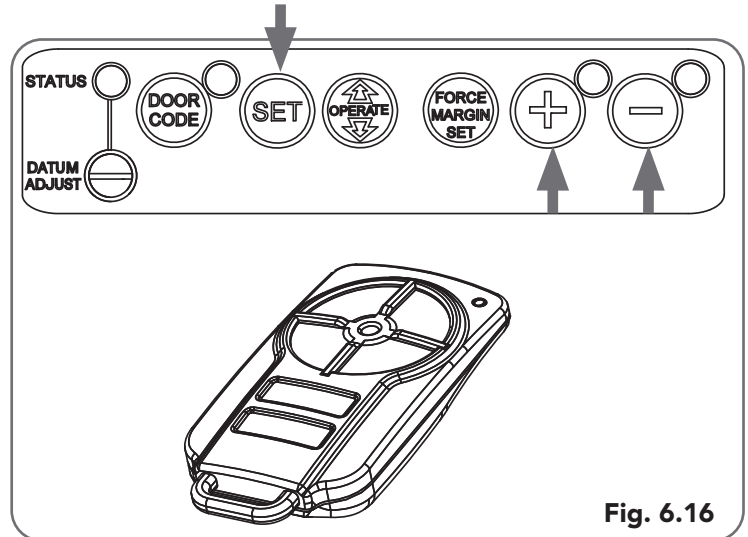

Fig. 6.16
- Press and hold the MINUS (-) button - the door should start closing. **(Fig 6.16)**